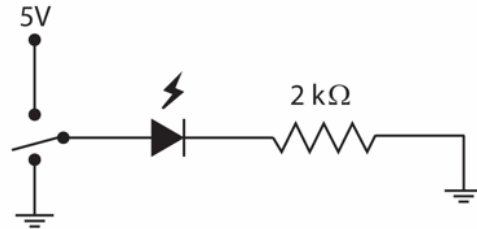

Figure 3. Light emitting diode (LED) circuit.
1. Build 3 copies of the LED (light-emitting diode) indicator circuit shown in Figure 3. Put two (using red LEDs) on the left side of the breadboard, and put one (using a green LED) on the